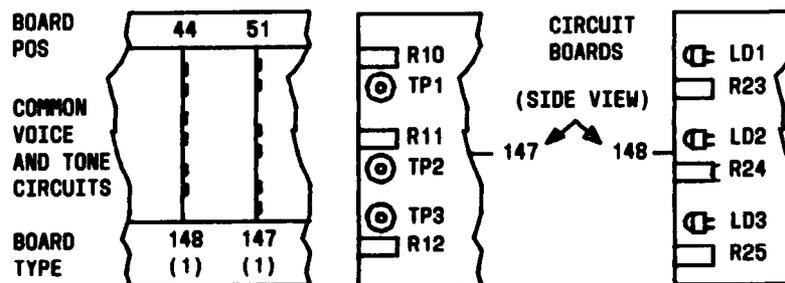

FIG. 2
[11] LOCATE CIRCUIT BOARDS (CB) 147-1 AND 148-1 IN COMMON VOICE AND TONE (CV AND T) CIRCUITS [FIG. 2]